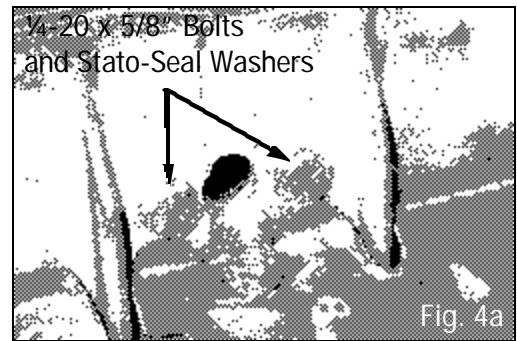

Fig. 4a
- Install the Oil Drain Adapter onto the oil pan using the two 1/4-20 x 5/8" bolts (We recommend using blue Loctite on the threads) and the two 1/4" Stato-Seal washers on the inside of the oil pan, using the gasket on the outside of the pan (See Fig. 4a & 4b). Torque the bolts to 6-8 ft/lbs.